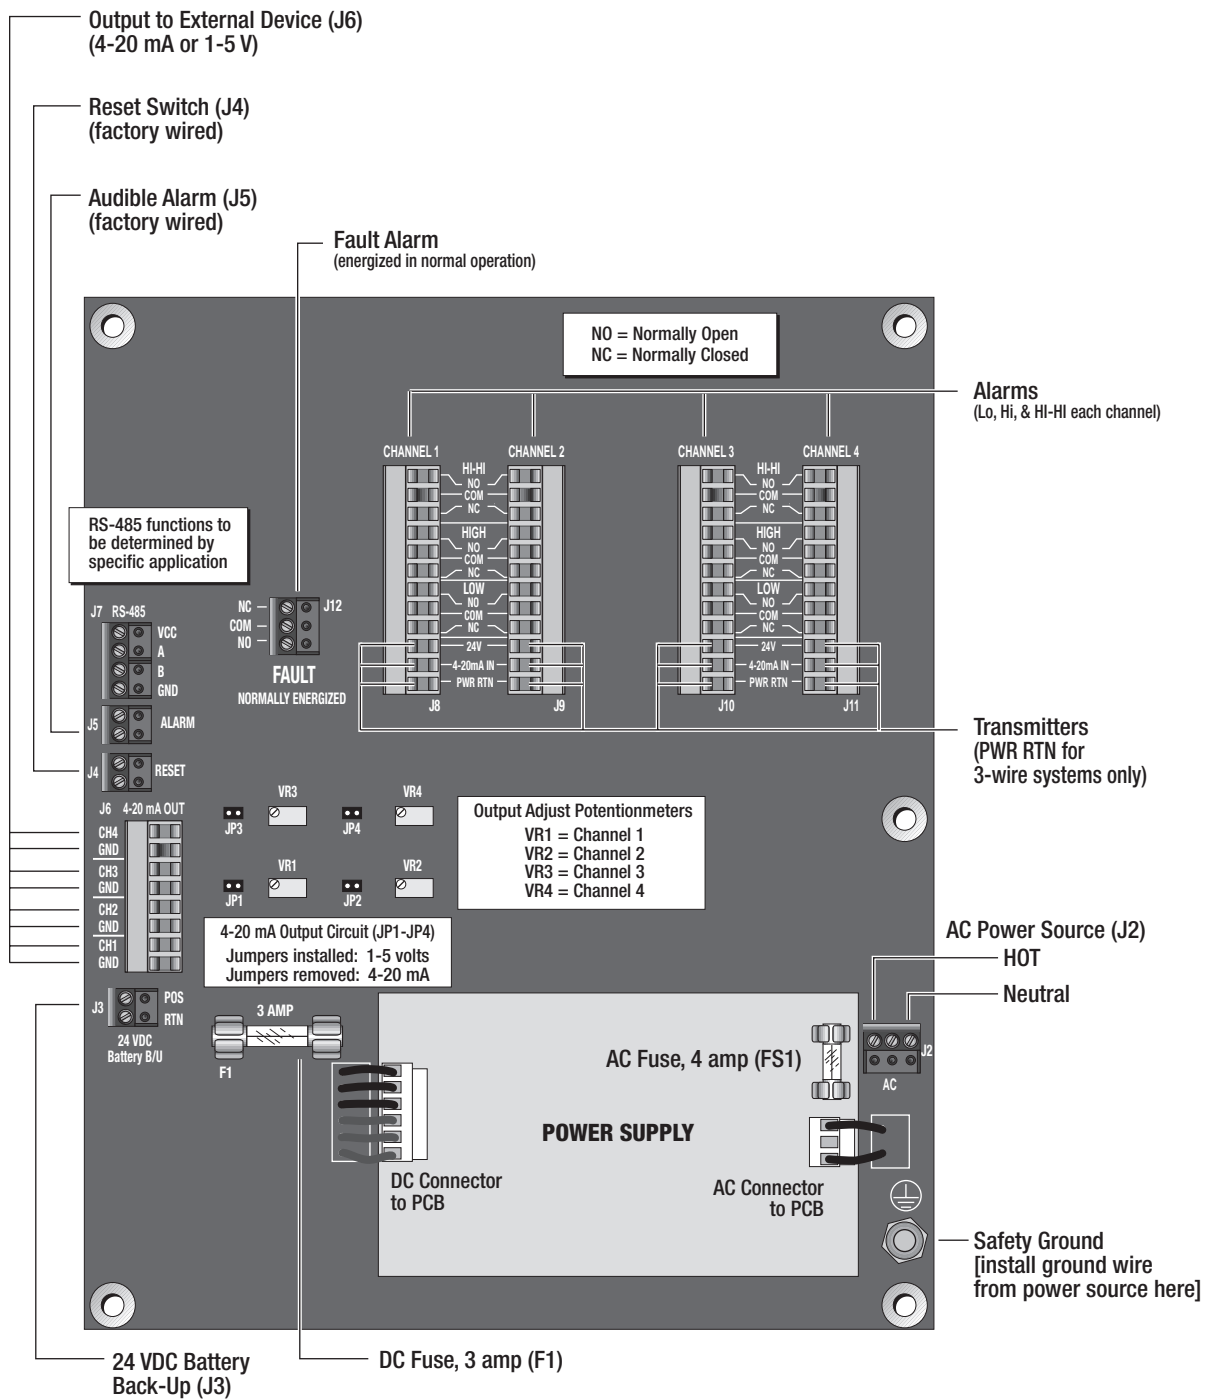

Figure 2.1
Wiring terminals are located on the Main (bottom) PCB. They are designated as follows (see Figure 2.1):
Wire the controller according to the terminal designations described in Section 2.1.1 and shown in Figure 2.1.
Wire the controller as follows (refer to Figures 2.1, 2.4, 2.5, 2.6, & 2.7):
- 10) Install the ground wire (earth) to safety ground (see Figure 2.1).